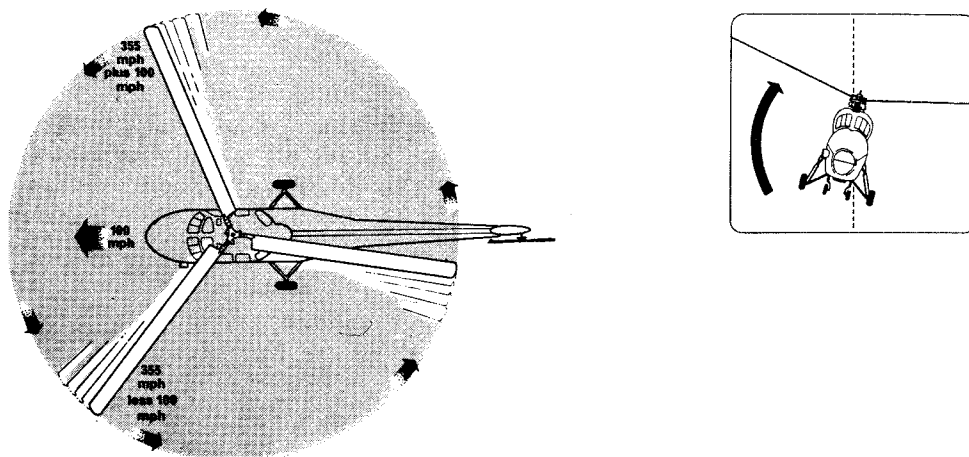

Fig 2 Effect of forward speed
4. The total lift and thrust produced by the main rotor of a helicopter is, like the lift of a fixed wing aircraft, dependent upon the speed of the airflow over it. The forward speed of a helicopter affects the lift of the main rotor blades. It tends to produce unbalanced lift because the speed of air flowing over the blades varies as the blades revolve from one side of the machine to the other (Fig 2).